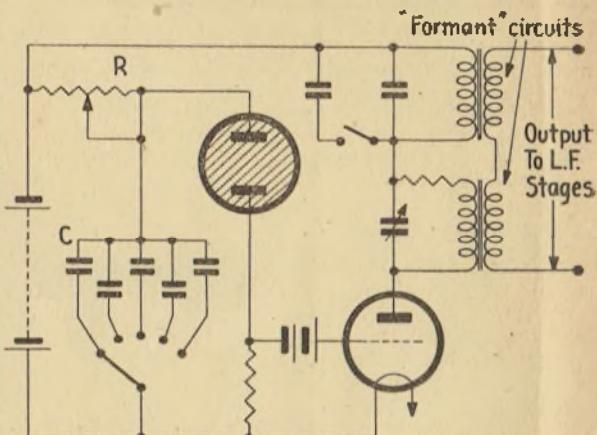

Fig. 1. Schematic of the "Trautonium."
Before discussing typical problems that arise in this class of work we will briefly describe some of the better-known instruments that have been developed. Mention has already been made of Lee de Forest's invention—a somewhat similar idea was designed by Trautwein in 1930 and 1931, using Neon lamps as relaxation oscillators in an instrument which he called a "Trautonium." Fig. 1 is a schematic of the circuit and it will be seen that the frequency or pitch is controlled by (1) a bank of condensers, and (2) by means of a variable resistance, thereby altering the time constant of the combination. The variable resistance consisted of a spun wire cord stretched over a steel band, the cord being pressed on to the band at any desired point by the performer. With such an arrangement staccato, glissando or vibrato playing can be easily achieved. Harmonics were stressed by a system of tuned circuits (called "formant circuits") in the plate circuit of the triode amplifier. A further amplification stage then fed a loud-speaker—in this portion of the circuit the volume control would be situated and be operated by a foot-pedal or a similar but smaller version for holding in the unoccupied hand. The playing technique is thus reduced to very simple proportions. In the actual instrument a dummy keyboard was painted under the steel strip to assist the player in the correct location of the notes. Fig. 1 represents the improved circuit of his second patent British No. 403,365 of March, 1932. This patent covered further developments in the playing manual to facilitate vibrato technique by means of specially shaped keys that could be rolled from side to side by the finger and so cause a slight frequency variation.